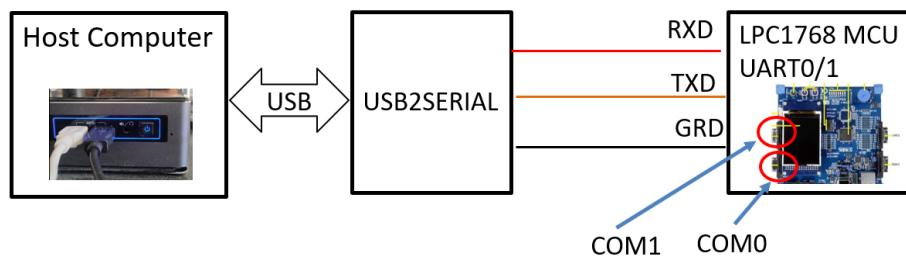

Figure 5.1: UART and Host Computer Connection
- `UART0_IRQ/`: This directory contains a stand-alone uVision application to show how to echo a key press. It uses the board UART0 to perform serial communication with the host computer by interrupts. The keyboard is connected to the host computer. The host computer connects to the board COM0 through an USB-to-Serial adapter. The COM0 port connects to the board UART0 (See Figure 5.1). The application captures the keyboard input character transmitted by the host computer. It then uses interrupt to transmit a string from the
The second part is to add UART interrupt services to enable the RTX system console. The microcontroller communicates with the system console using UART0 by interrupts. There are two RS-232 ports : COM0 and COM1 on the board which connects to the UART0 and UART1 respectively on the microcontroller board. Each UART is connected to the microprocessor address, data and control buses on one side, and to the incoming (keyboard) and outgoing (character display) serial data link on the other side (See Figure 5.1).